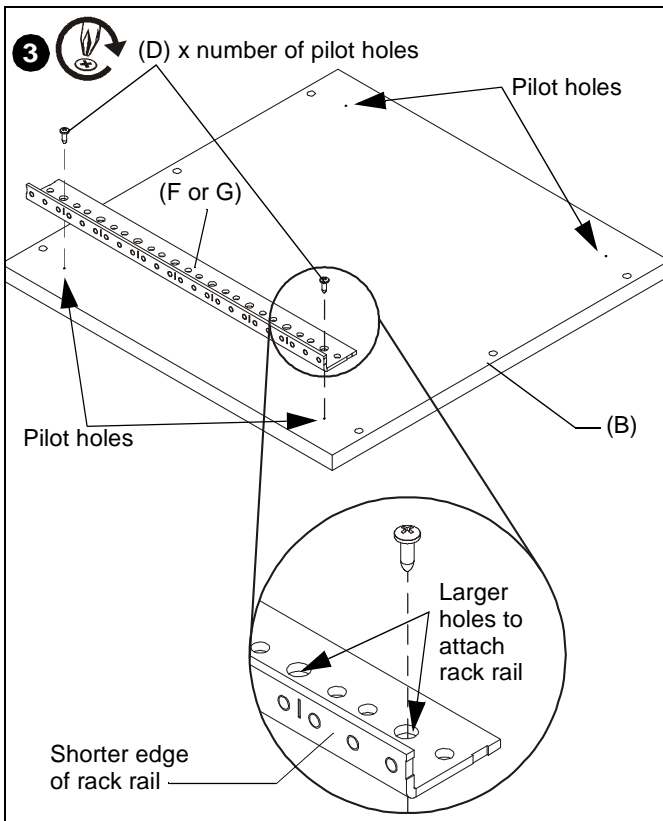

Figure 1
1. Lay two side panels (B) flat with pilot holes facing up. (See Figure 1)
2. Orient one rack rail so that the shorter edge of rack rail faces the front of the rack. (See Figure 1)
3. Attach rack rail (F or G) to side panel (B) using #10 x 5/8" Phillips wood screw (D) in larger holes on rack rail.